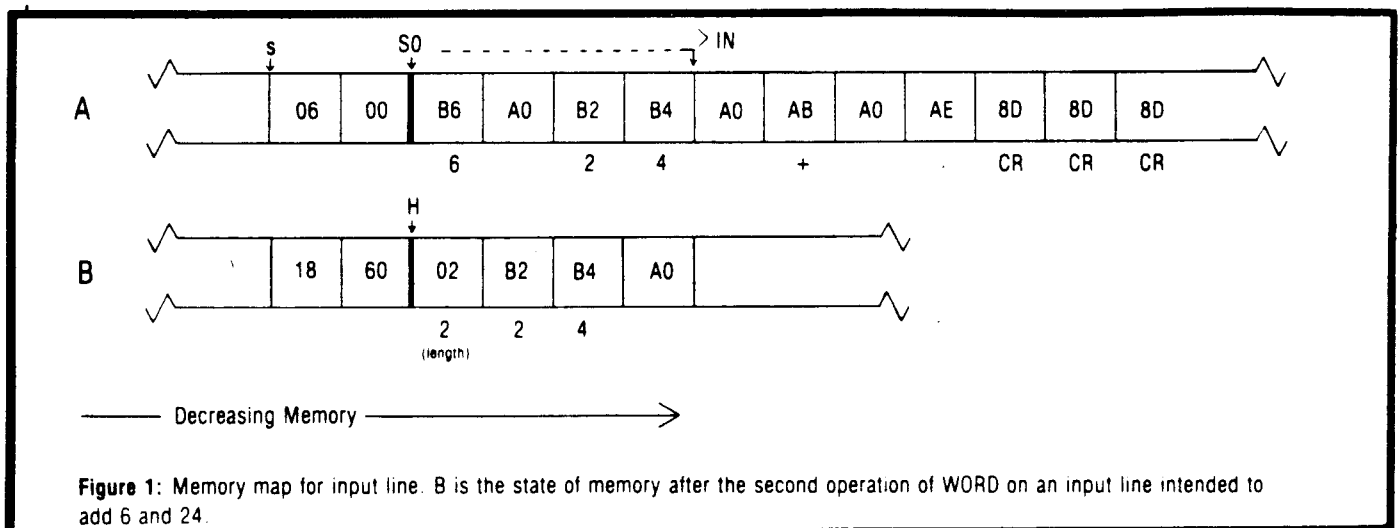

Figure 1: Memory map for input line. B is the state of memory after the second operation of WORD on an input line intended to add 6 and 24.
**WORD** This word takes a sequence of characters off of the input stream and places it at the location pointed to by H. The TOS is used as the separation character (usually \$A0 = space); this means that WORD starts at S0 + >IN and searches memory for the first character which is not the separation character. It then takes the section which starts there and ends at the next separation character or termination character and places this block, preceded by its (one-byte) length, at the location pointed to by H. >IN is modified accordingly, and the value of H is returned as the TOS. (See Figure 1.)